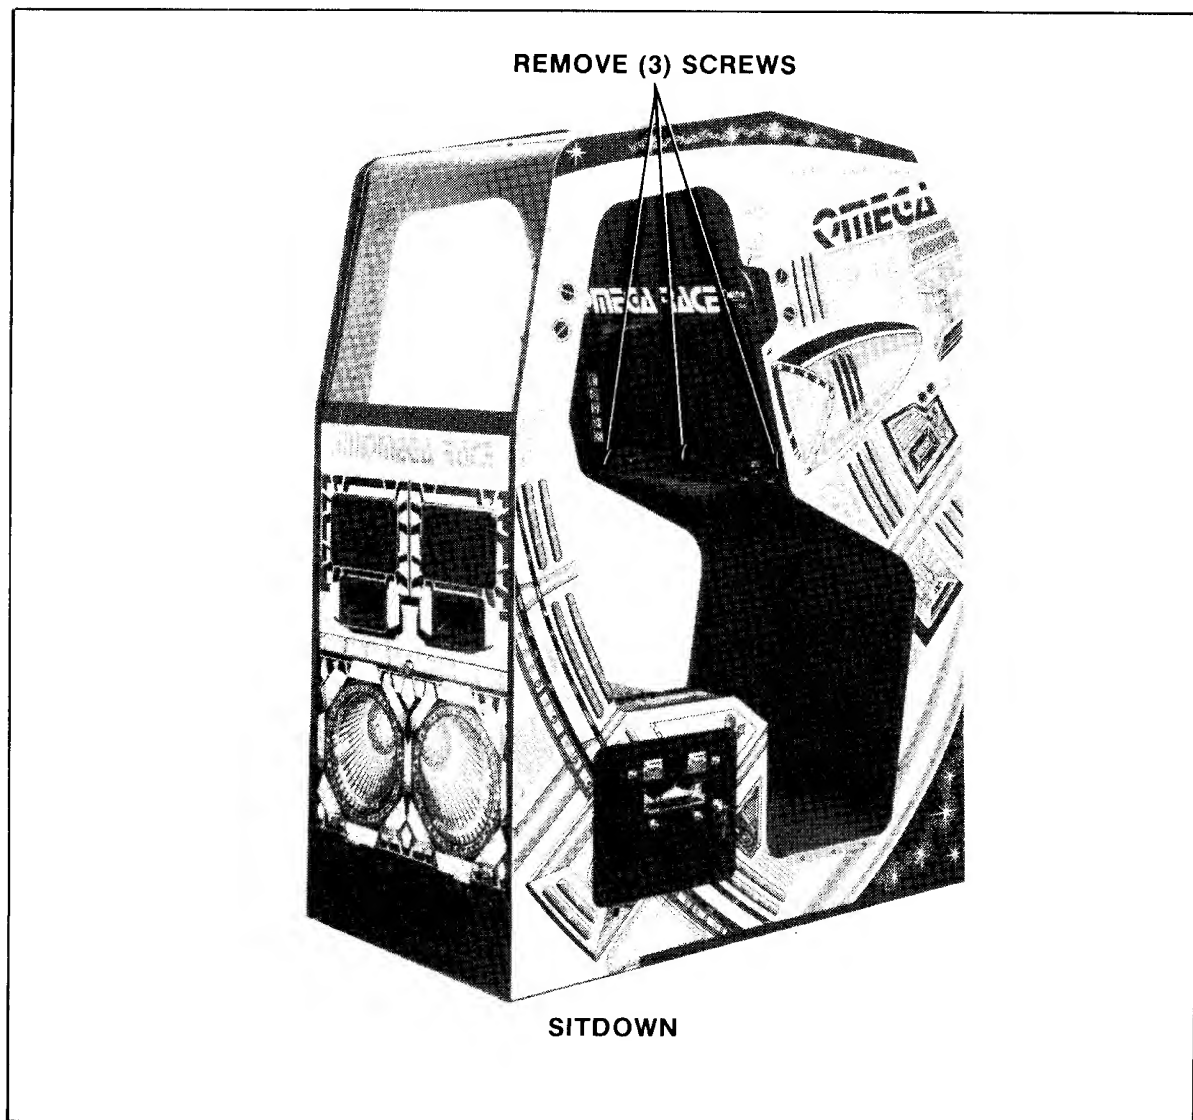

FIGURE 21
d. To remove the control panel at the bottom of the screen: (See Figure 21.)